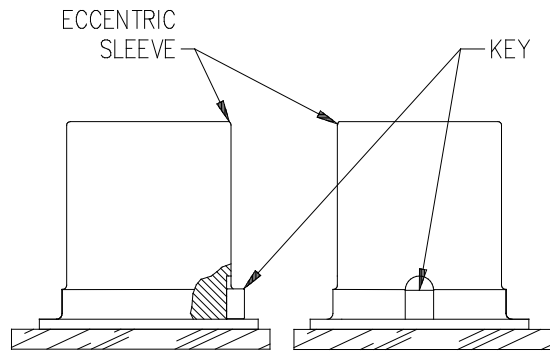

Fig. 6.9.3
2. Prepare key and make sure it fits into both key-ways. Fit the key to the eccentric sleeve. (Fig. 6.9.3).